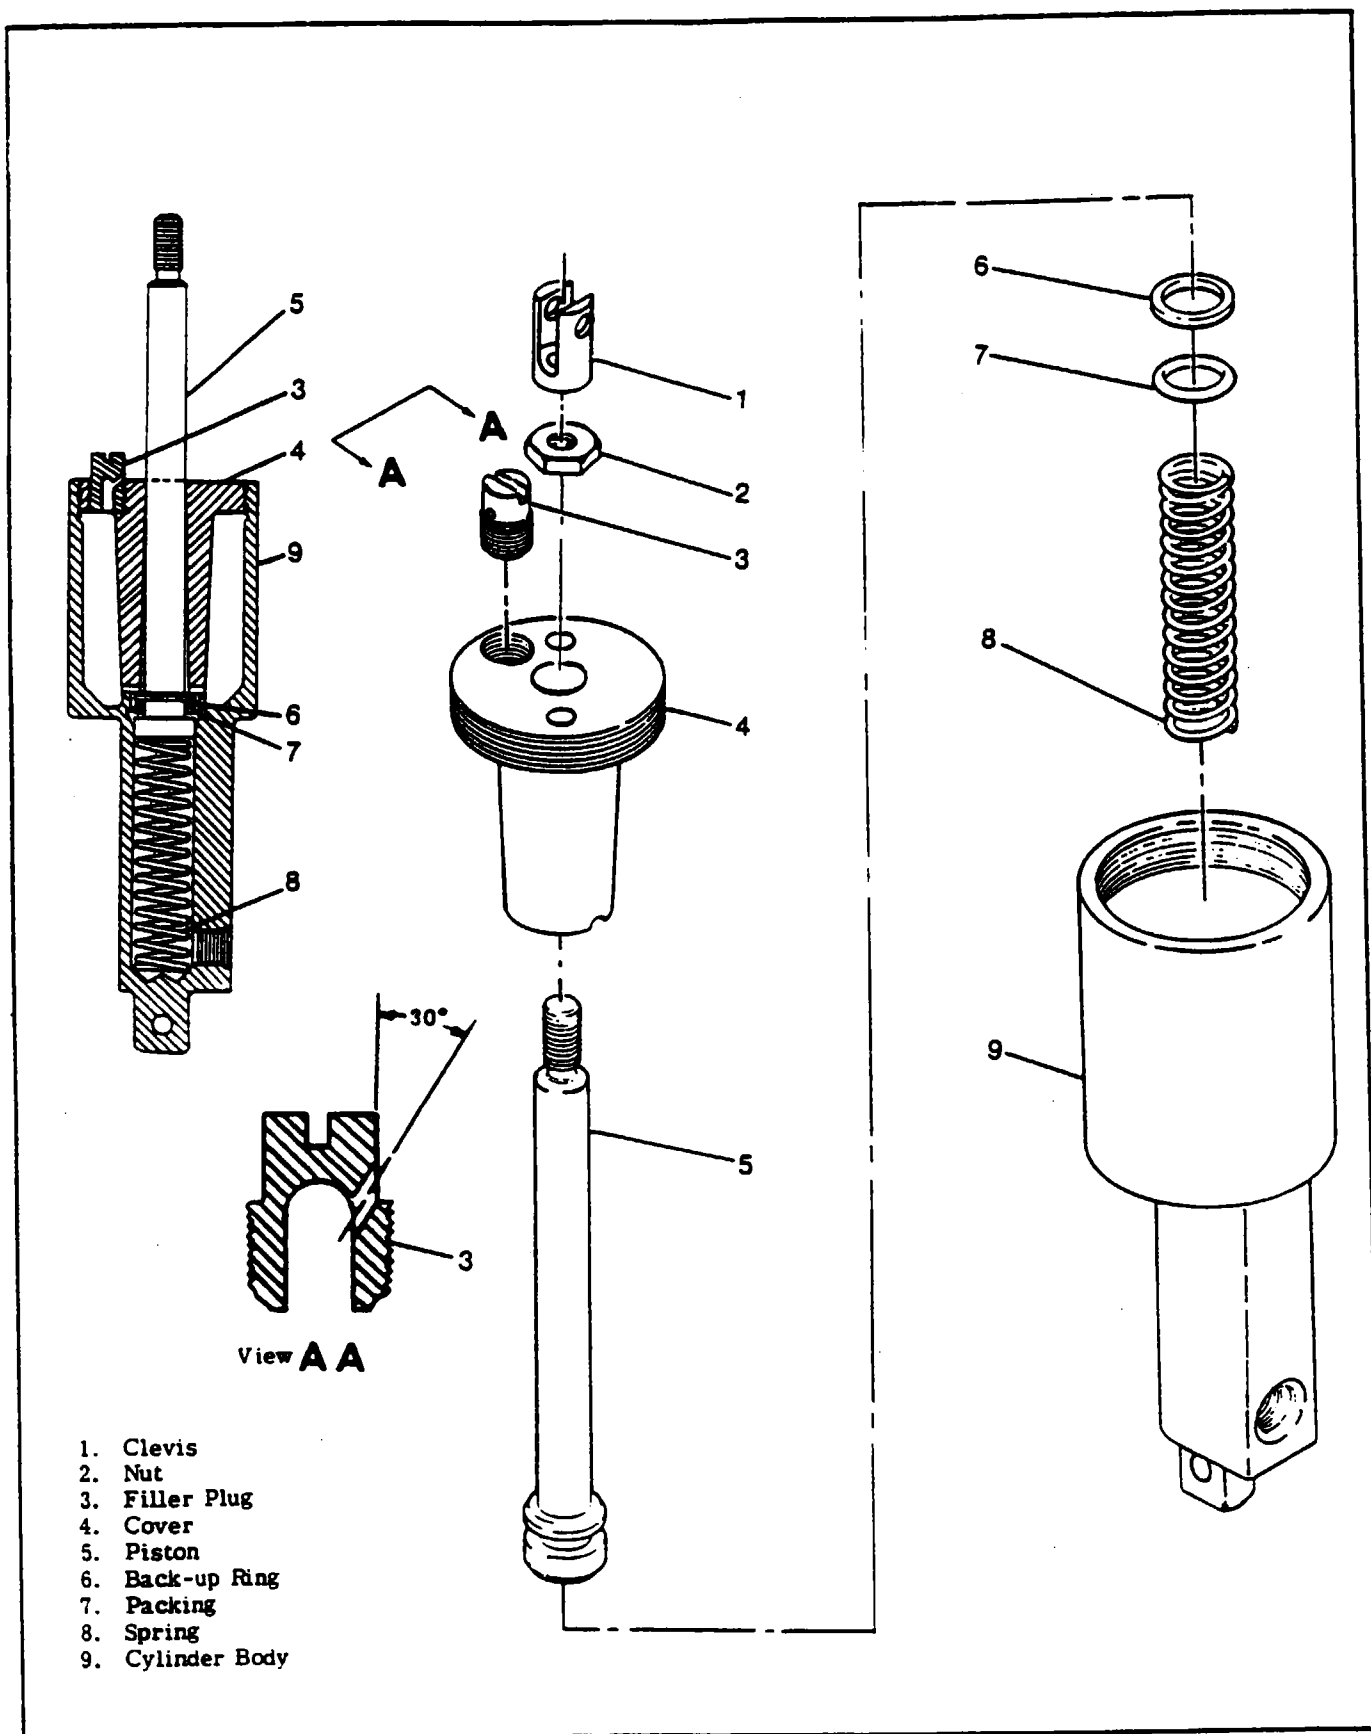

Figure 5-28. Master Brake Cylinder
5-137. BRAKE MASTER CYLINDER. (Refer to figure 5-28.)
5-140. DISASSEMBLY. (Refer to figure 5-28.)
- Unscrew cover (4) and remove up over piston (5).
- Remove piston (5) and spring (8).
- Remove packing (7) and back-up ring (6) from piston (5).
5-141. INSPECTION AND REPAIR. (Refer to figure 5-28.) Repair is limited to installation of new parts and cleaning. Use clean hydraulic fluid (MIL-H-5606) as a lubricant during reassembly of the cylinder. Replace packings and back-up rings. Filler plug (3) must be vented so pressure cannot build up during brake operation. Remove plug and drill 1/16-inch hole, 30° from vertical, if plug is not vented. Refer to View A-A for location of hole.
5-142. REASSEMBLY. (Refer to figure 5-28.)